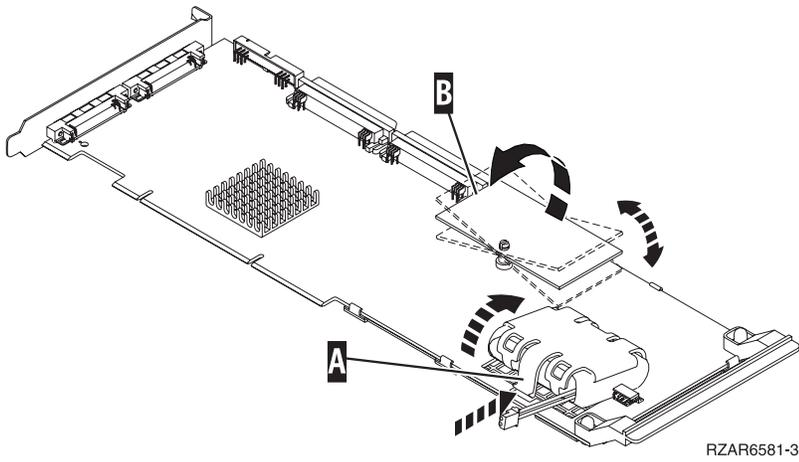
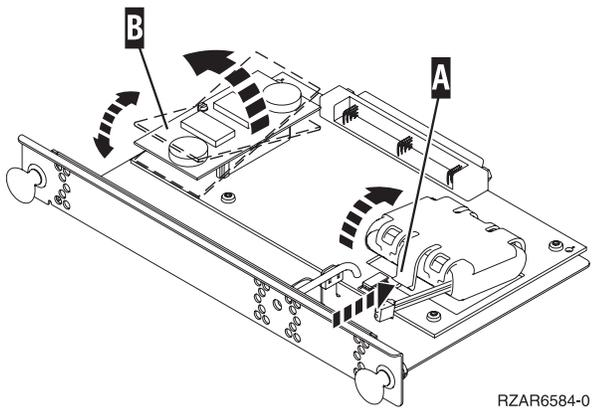
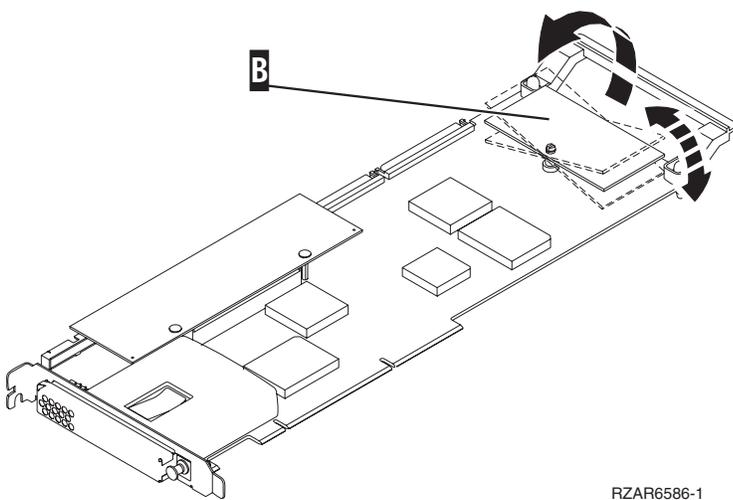
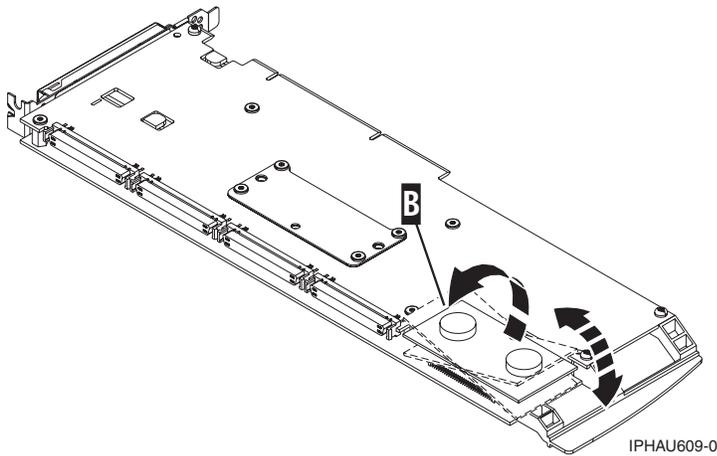

Figure 15.
Figure 16.
Figure 17.
Figure 18.
2. Locate the cache directory card **B**. It is a small rectangular card mounted on the I/O card (see Figure 15 on page 178, Figure 16 on page 178, Figure 17 on page 178 or Figure 18 on page 179 below).